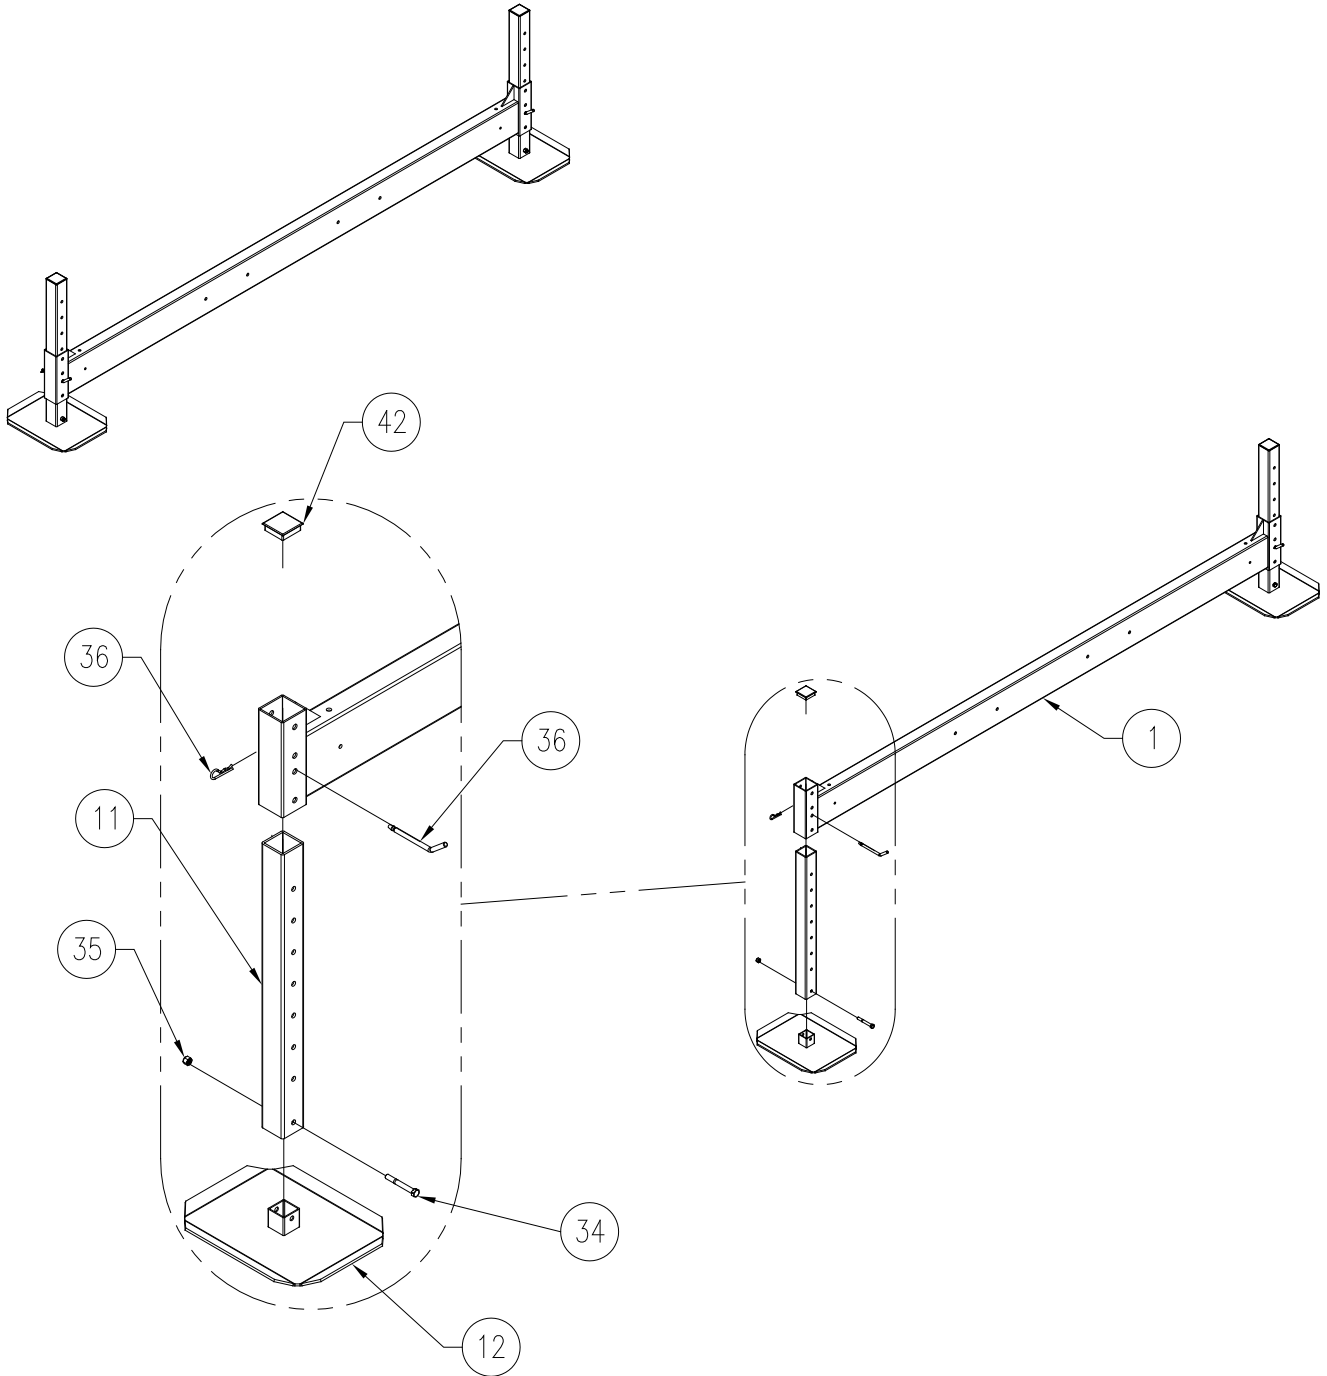

Figure 3-1.
1. Refer to **Figure 3-1**. Fasten foot plate (12) to extension leg (11) using hardware (34) and (35).
2. Insert foot plate and extension leg assembly into leg assembly (1). Insert leg pin (19) and clip (37) to secure.
3. Install the four plastic cap plugs (42) onto ends of the extension legs.